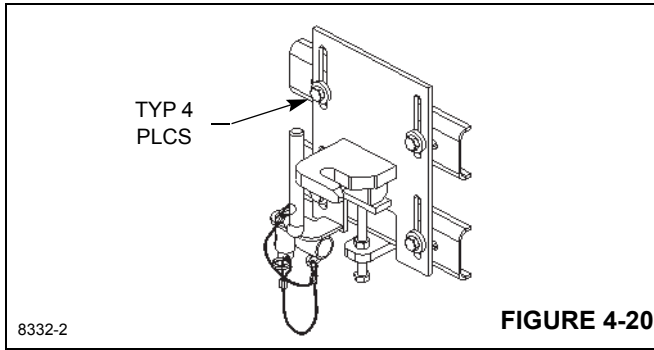

FIGURE 4-20
2. Loosely bolt the hook assembly to the side of the first boom section, Figure 4-20.